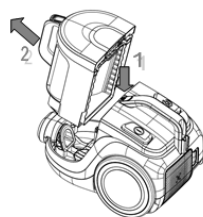

Fig. 2
2. Press the latch on the vacuum cleaner body (Fig. 2) and remove the dust container upwards.
1. Remove the dust container from the vacuum cleaner (Fig. 2).